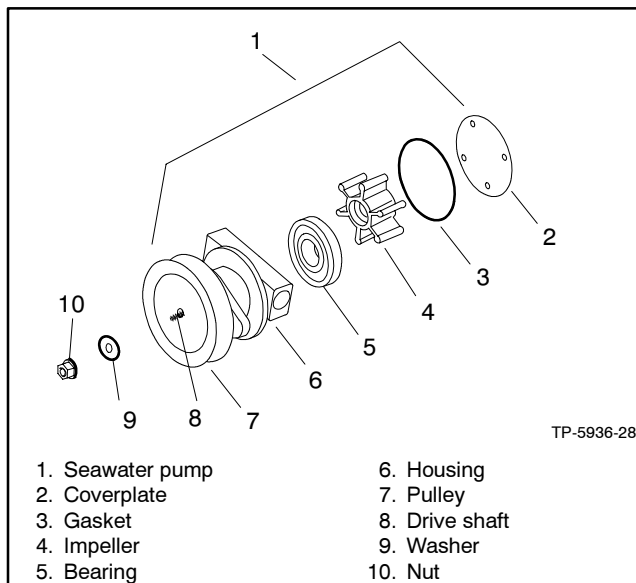

Figure 5-4 Seawater Pump, Typical
2. Remove the seawater pump coverplate. See Figure 5-4.